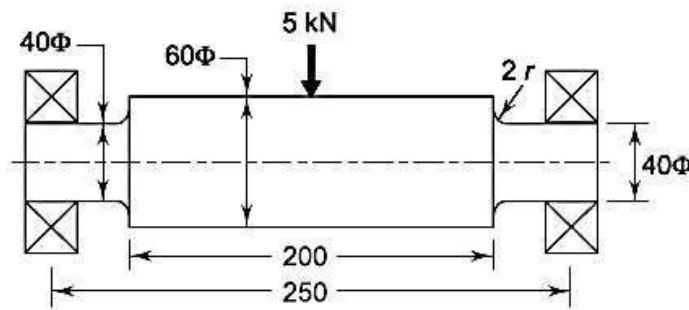

Figure 6.3
3. A shaft carrying a load of 5 kN midway between two bearings is shown in Fig. 6.3 Determine the maximum bending stress at the fillet section. Assume the shaft material to be brittle.
- From Fig. 6.3 (Corrected):